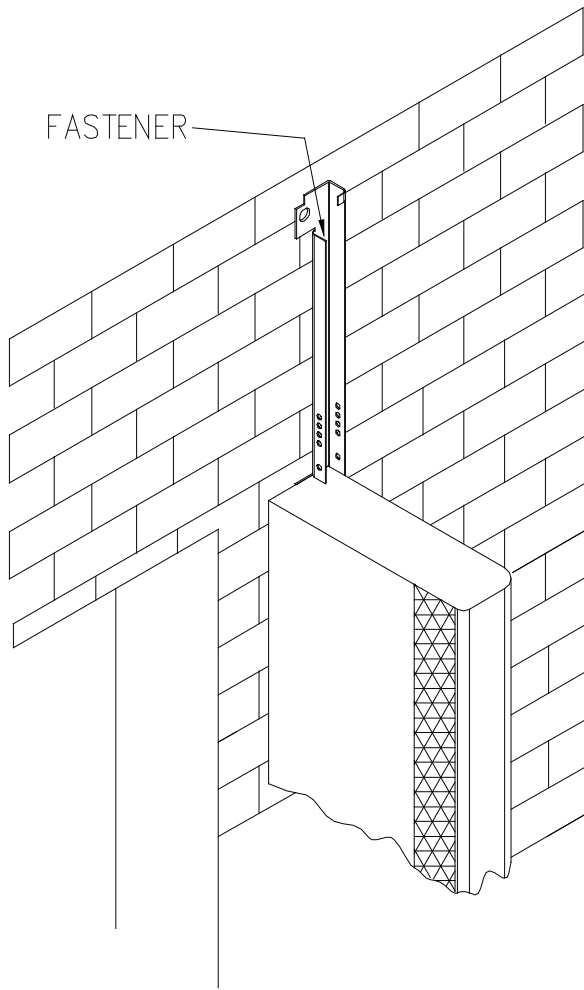

FIGURE 7
1. Before starting Step 5 of the standard canopy style header installation procedure, install an extra anchor/fastener through the brackets at the top of mounting bracket just below the area used for the backer board. (See Figure 7) With the increased height of the mounting bracket, extra support is needed to hold bracket to wall before attaching the front bar assembly. The front bar assembly imposes a load on the bracket and with the increased height, the load is increased. Make sure bracket is in the